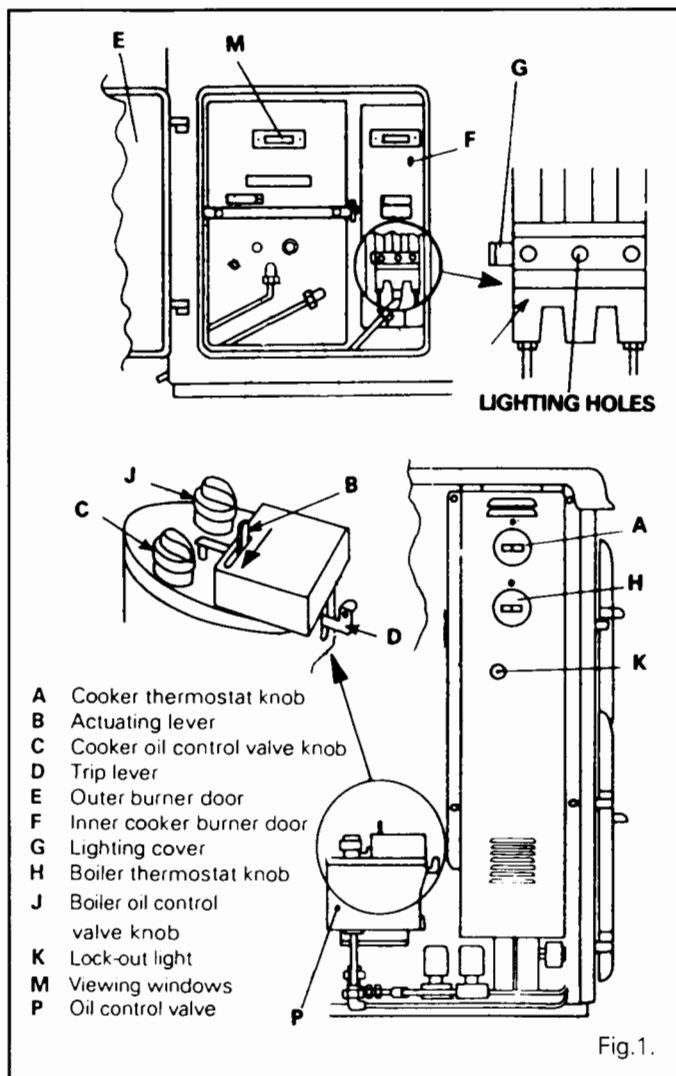

Fig.1.
1. Depress the trip lever **D** - see fig.1 on the front of the oil control valve **P** and turn the cooker oil control valve knob **C** to No.6 setting.